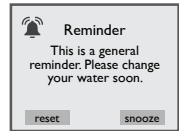

Figure 15.0f
24. Water Refresh Reminder: This message will appear when the "Water Refresh" timer has expired (Figure 15.0f). The water needs to be drained and refilled with fresh water.